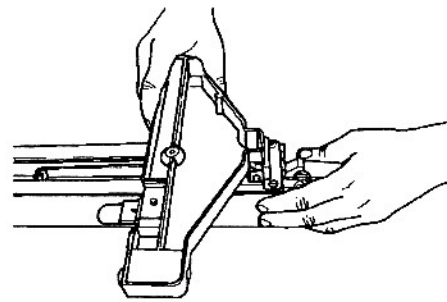

Fig. A-48
56. Place the fence base over the tapered stud projecting from the bottom, as seen in Fig. A-48.